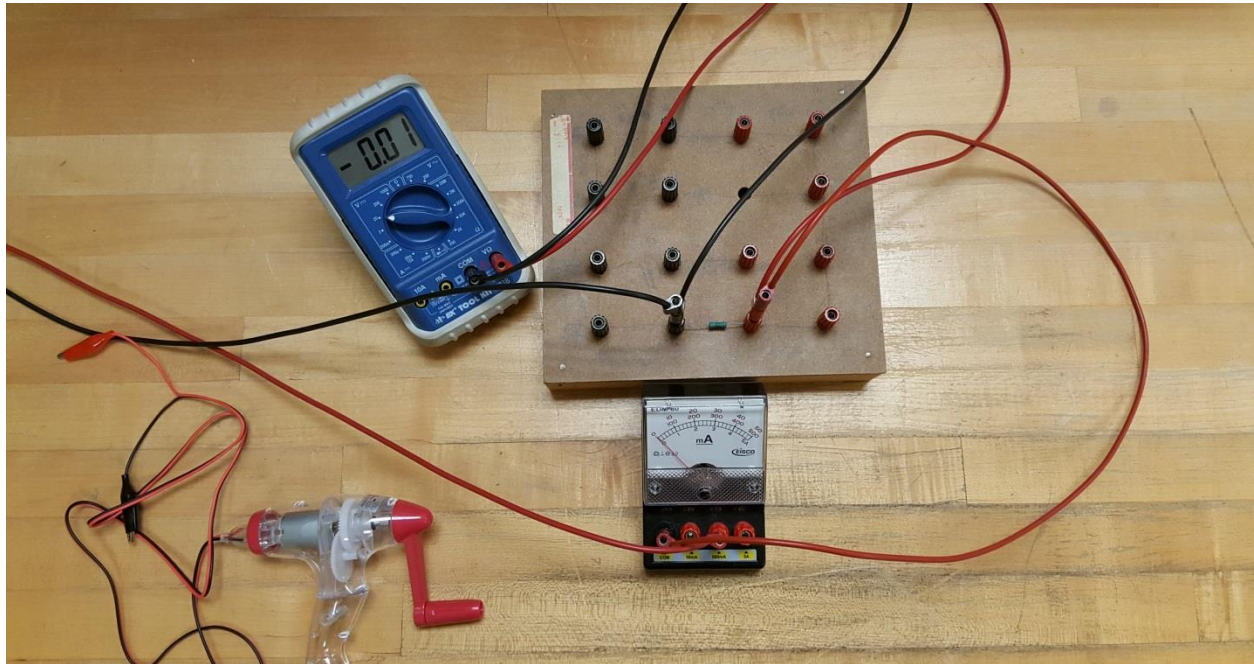

Figure 4
- Using another wire, plug one end into the post on the circuit board where the ammeter is not connected, and plug the other end of the wire into the black post on the wall power supply (“0-30 V DC 1A”). Your figure should look like that seen in Figure 4. **Record** any nonzero reading on your multimeter. This value must be treated as the zero reading for this meter. If you have one, your measurements in this part of the experiment must be corrected for this offset.